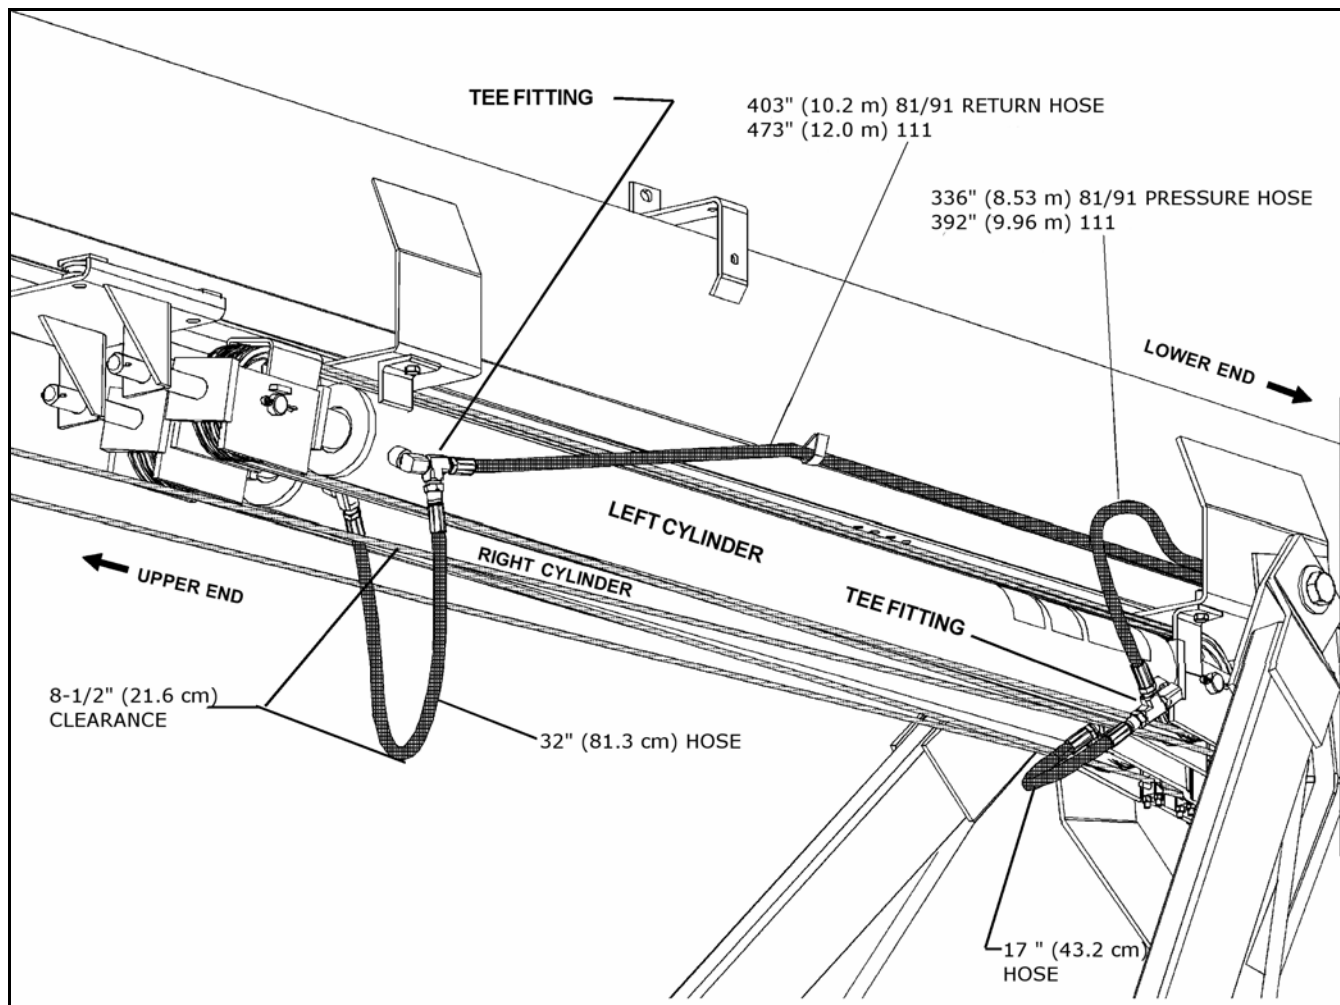

Figure 3.43
1. Position both elbow fittings on **right cylinder**. The **lower** one should face forward and downward at approximately 45°. The **upper** one should face rearward and downward at approximately 45° (Figure 3.43). Make certain they are tight.
**Note:** *Before attaching short connector hydraulic hose to left side lift cylinder, make certain lift cables are tightly stretched and that this hose is positioned beneath lift cable on left side lift cylinder (Figure 3.43). If lift cable is not installed above this hose, it could result in the hose wearing through during operation, causing a hazardous situation.*
5. Secure the tee fittings to the left cylinder elbow fittings and position them as shown in Figure 3.43. Make certain they are securely tightened.
7. Check upper 32" (81.3 cm) cylinder-connector hose position to ensure there is 8-1/2" (21.6 cm) clearance to lift cables as shown in Figure 3.43.
10. Thread hoses through back arm attach bracket as shown in Figure 3.43.